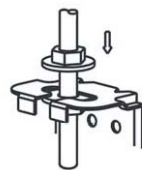

fig.7
- Locate the air conditioner firmly by wrenching the nuts after having adjusted the body's position well.(refer to fig.7)